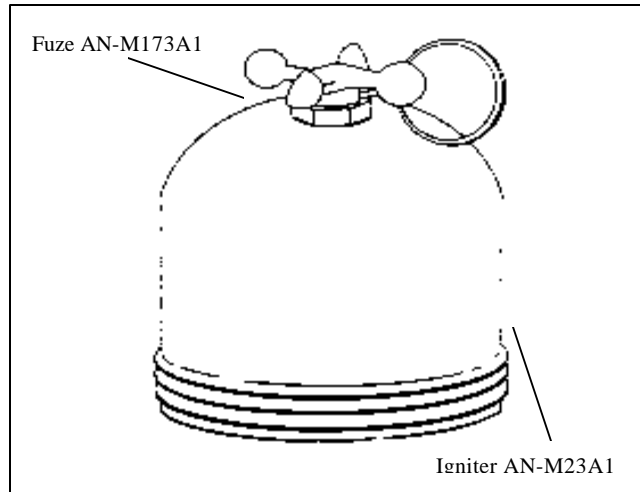

Figure 22. Igniter AN/M23A1
- (7) Except when fuzed for airburst, they rupture on impact and spread burning fuel on surrounding objects. Fuze igniter combinations are used to ignite the combustible filling. Fire bombs contain two fuze igniters like the one shown in Figure 22. These are very sensitive to movement.